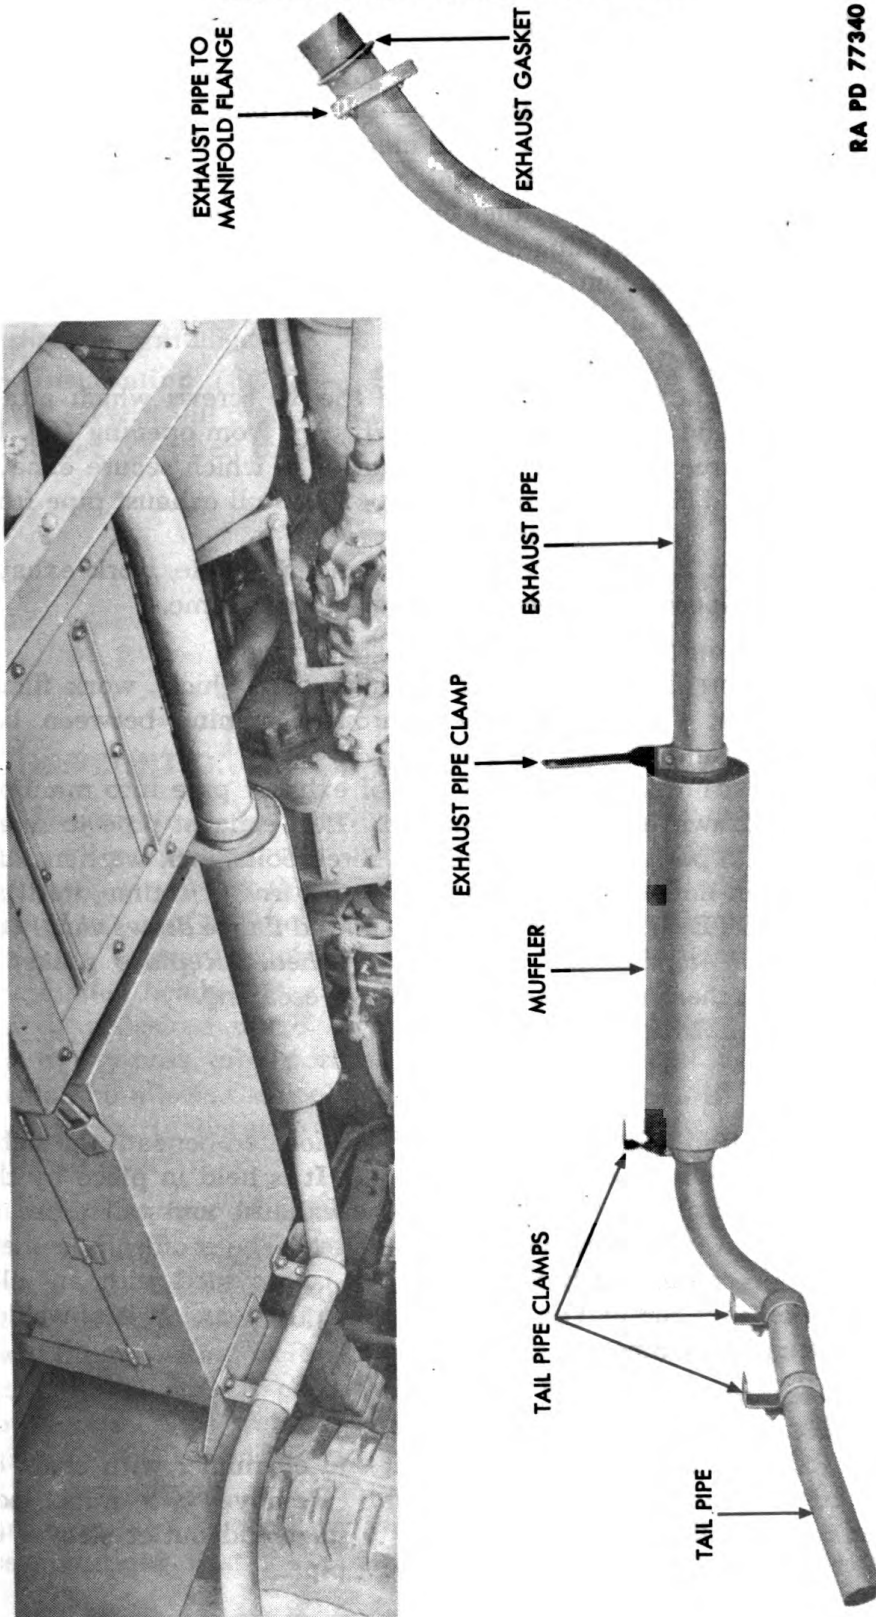

Figure 42 — Exhaust System
a. Description (fig. 42). Exhaust gases are conducted from the exhaust manifold to the muffler by the exhaust pipe. This pipe is an iron tube fitted with a flange on its manifold end. The flange bolts directly to the manifold. A metal and asbestos gasket is used to ensure a gas-tight fit. The other end of the pipe is plain and enters into a split tube extending from the muffler. This split tube is tightened securely around the muffler by means of a clamp.
b. Removal (fig. 42).
(2) **DISCONNECT FLANGE.** Remove the 10 screws which attach door to right-hand cab skirt opening. Lift door from opening (fig. 1). Remove the three nuts, lock washers and bolts which secure exhaust pipe to manifold flange to manifold (fig. 42). Pull exhaust pipe from manifold.
c. Installation (fig. 42).
a. Description (fig. 42). The muffler is located beneath the right-hand frame side rail behind the tool box. It is held in place by the muffler support clamps which clamp the exhaust and tail pipes to it. Its function is to decrease exhaust noise. The muffler is a sheet iron cylinder containing baffle plates. It is provided with an inlet sleeve on its front end and an outlet sleeve on the rear. It is of welded construction and cannot be disassembled.
c. **Installation** (fig. 42). Slide inlet sleeve of muffler onto back end of exhaust pipe and install bolt, lock washers, and nut on clamp. Install tail pipe (par. 71 c).
a. **Description** (fig. 42). The tail pipe is an L-shaped iron tube. It conducts exhaust gases from the muffler to a point directly in front of the right rear wheel.
b. **Removal** (fig. 42). Loosen the three tail pipe clamps. Pull tail pipe from muffler.
c. **Installation** (fig. 42). Engage tail pipe with outlet sleeve of muffler. Twist tail pipe so its discharge end projects in front of right rear wheel. Tighten three tail pipe clamps.